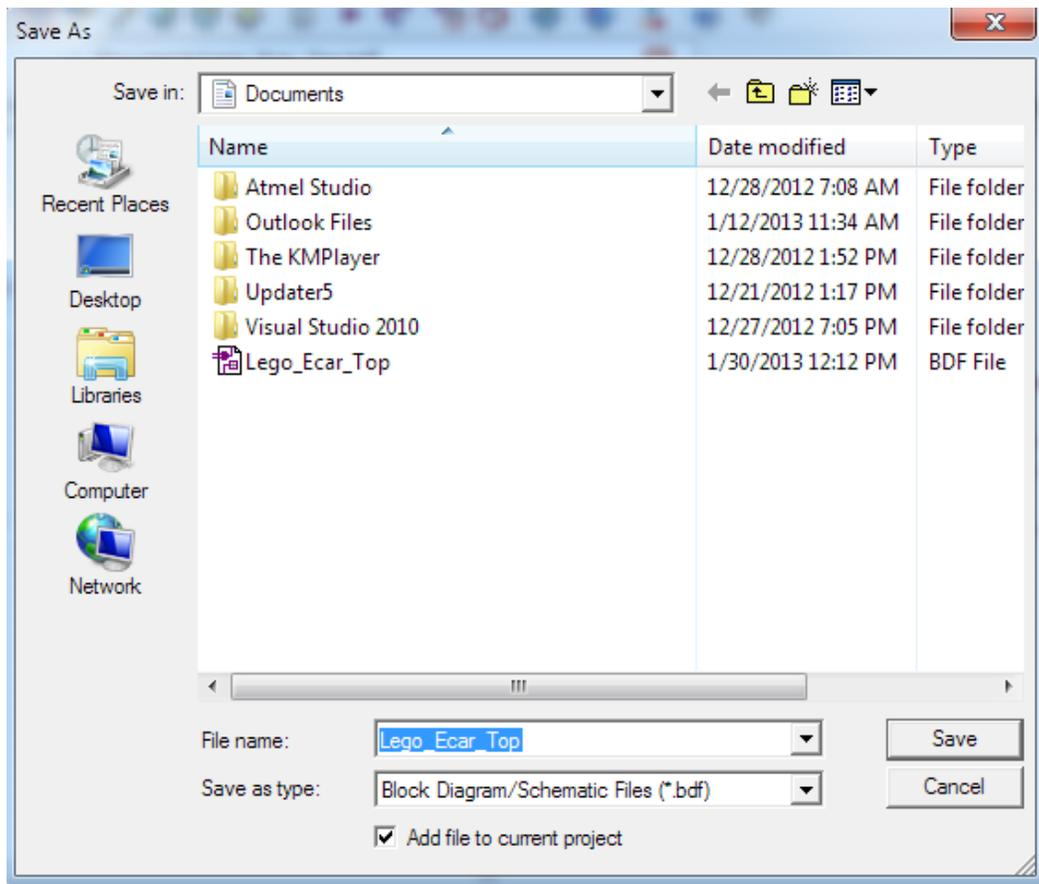

Figure 1-57 Save Bdf File
37. Choose **Save** icon in the tool bar. There will appear a window as shown in Figure 1-57. Click **Save**.